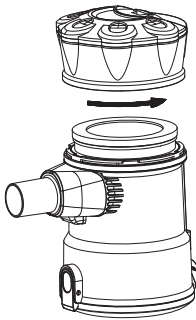

Fig.8
2. Twist the lid of the dust container anticlockwise to open.(Fig.8)